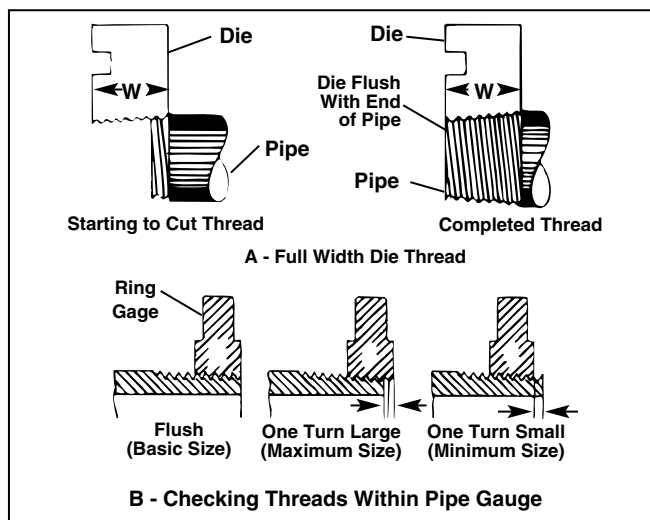

Figure 10 – Checking Thread Length
- Thread is cut to proper length when end of pipe is flush with edge of dies (*Figure 10*).
- Die Head is adjustable to obtain proper thread diameter. If possible, threads should be checked with a thread ring gage (*Figure 10*). A proper thread is cut when end of pipe is plus or minus one turn of being flush with face of ring gauge.